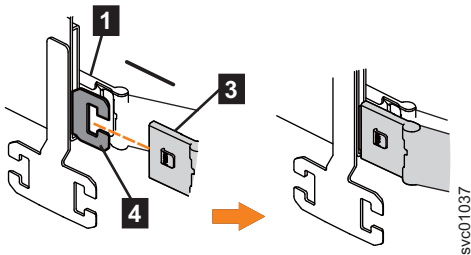

Figure 101. Install the inner connector of the upper CMA to the inner member of the support rail
3. Install the inner connector of the upper CMA assembly (**3**) to the inner member of the left support rail (**4**), as shown in Figure 101.